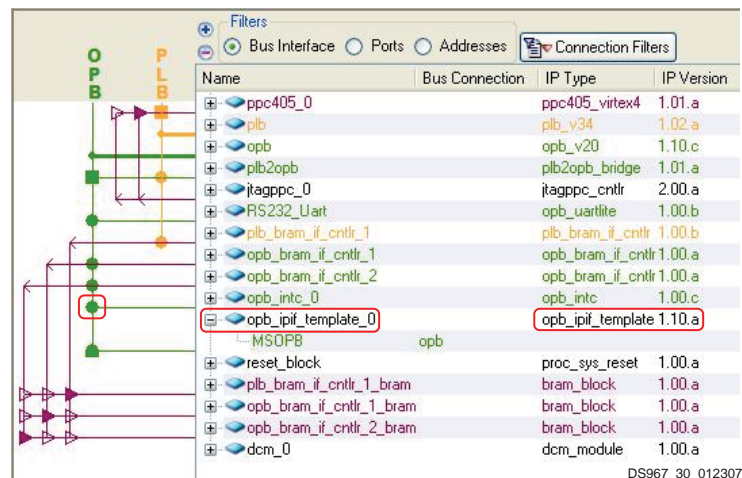

Figure 30: Connecting the Custom IP to the OPB Bus
4. To do so, make the selections as shown in Figure 30.
- c. Click on the green intersection with the OPB as shown in Figure 30 to connect the opb_ipif_template_0 OPB master and slave interfaces to the system OPB.
5. In the system assembly view, Figure 30, double click on **opb_ipif_template_0** to open the opb_ipif_template_v1_10_a window in which address configurations can be assigned.
In the system assembly view shown in Figure 30, select **Ports** under Filters, then connect the custom IP interrupt signal to the OPB interrupt controller. Connect the User_FIFOs_Status_Flag port to the Global output port. This signal will be connected to an LED on the ML403 board.